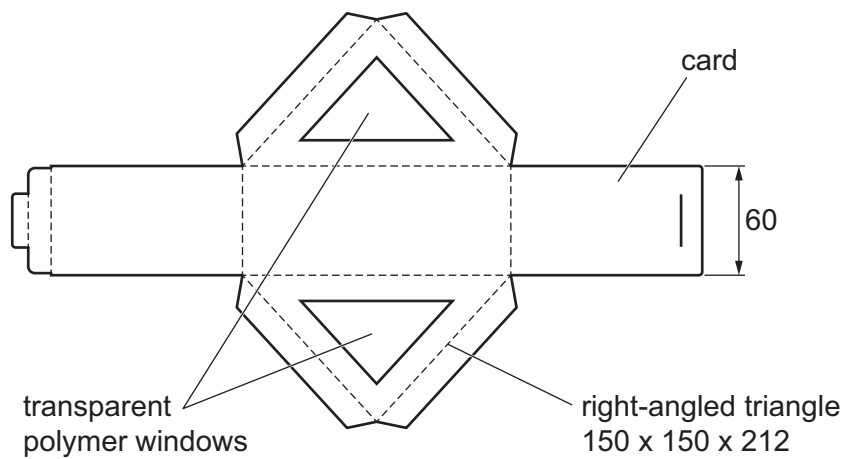

Figure 4.1
- 4 Figure 4.1 shows a design for a development (net) that is to be used to make a package for a sandwich.
- (b) Use sketches and notes to show a method of making and assembling the package for a sandwich shown in Figure 4.1. Include the method of attaching the transparent polymer windows.
(c) Surface graphics are to be added to the development (net) shown in Figure 4.1.